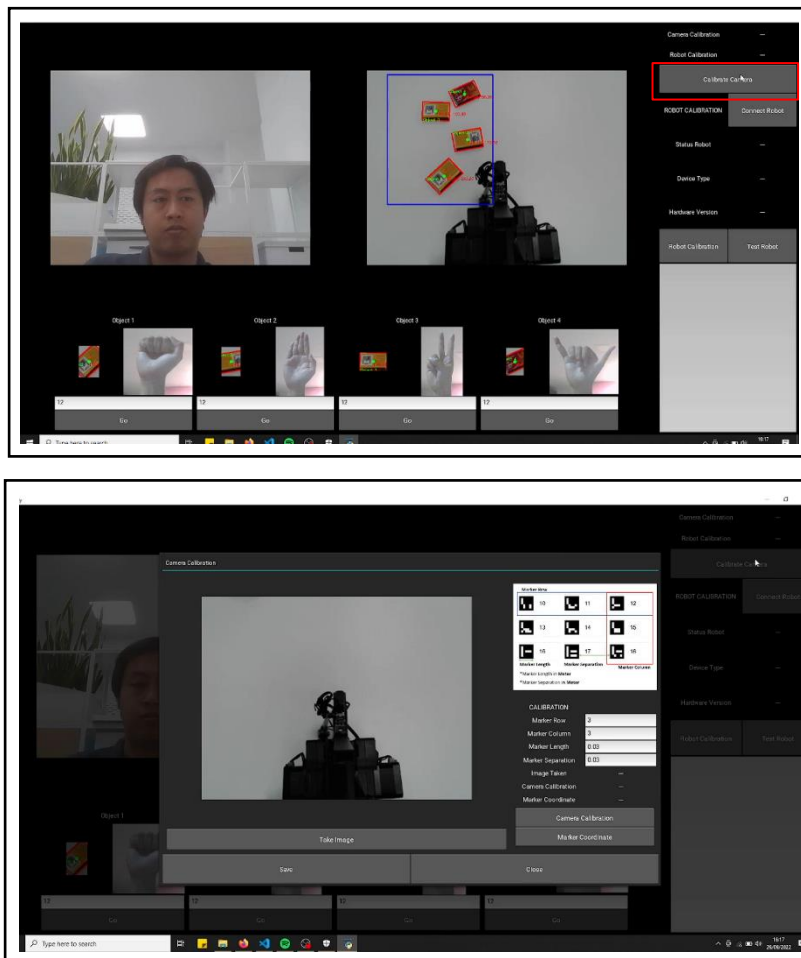

Figure 3. Camera Calibration Interface
4. After you click it, it will appear Camera Calibration interface like *Figure 3*